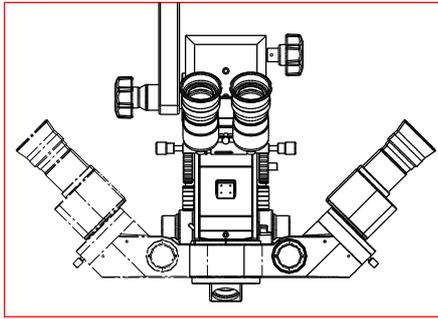

Fig.10
6. Set the assistant lens' position. The assistant lens can be placed either at the left side or right side of the main microscope, indicated in Fig.10. If you want to change the position of the assistant lens, first press the locking pin lever [47] downwards, then rotate the assistant lens. After the assistant lens are divorced from the orientation, release the locking pin lever after the assistant lens moves a small angle and continue to rotate the assistant lens until the locking pin clicks into the location.